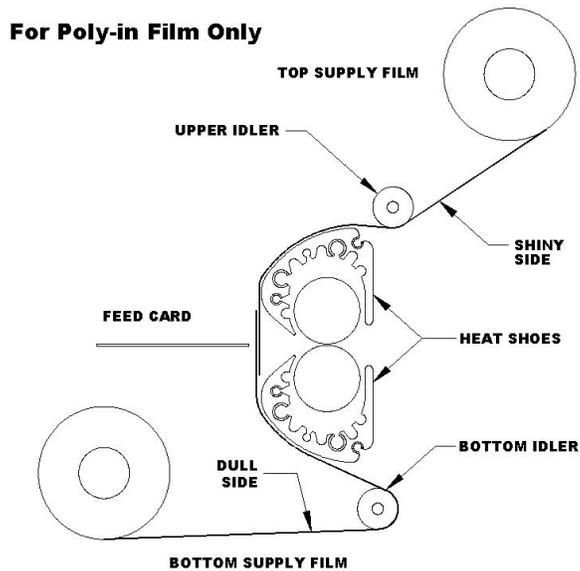

Figure 5
4. Pull 6"-12" of film from the bottom roll. Pass it over the lower idler bar and drape the film from the bottom roll over the film from the top roll. Since the heat shoes are hot the bottom film will adhere to the top film. See Figure 5 below.
6. Feed a piece of thin cardboard about 10" x 25" against the film so that it is centered between the two Heat Shoes. Push the cardboard and film into the Laminating Rollers. See figure 5.